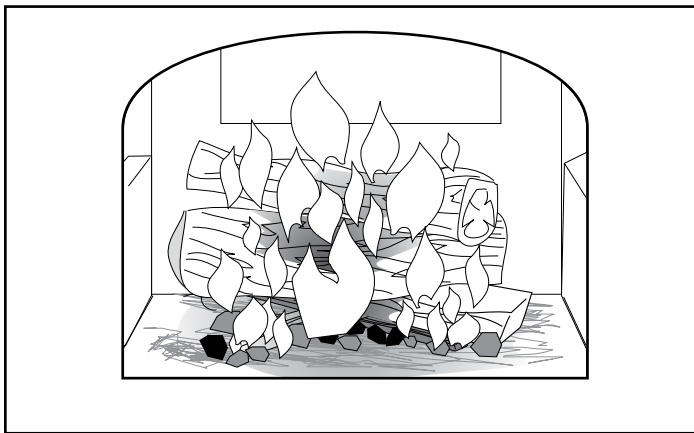

Figure 41 - Add full size logs when the ember bed is 3" (75mm) deep.
5. Position the charcoal in the middle of the firebox (Figure 41) then load wood — smaller, split pieces first. Increase the amount of fuel you load into the stove as you become familiar with your stove and the heating needs of your home.